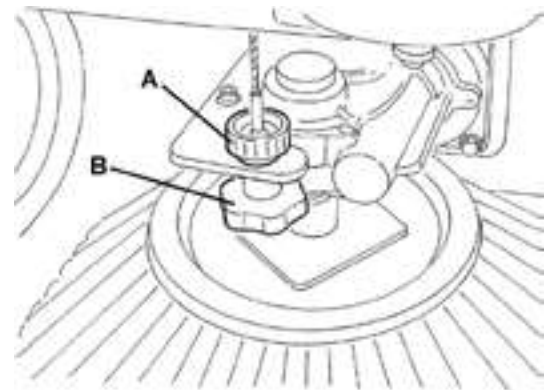

Figure7
- 2)Turn the ignition key (71) to "0".
- 3)Loosen the knob (A, fig. 7) positioned above the brush.
- 4) Turn the knob (B, fig. 7) and remind that: